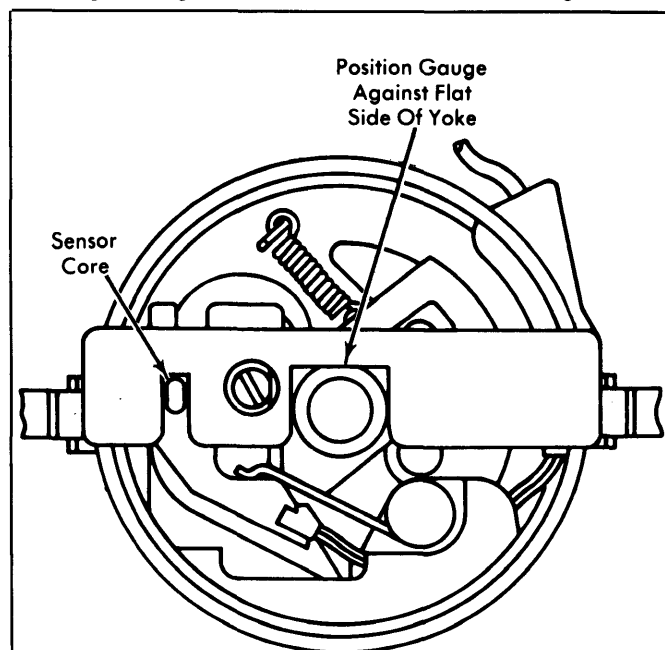

Fig. 2: Positioning Sensor Core
2) Tighten screw and recheck sensor position. When trigger wheel is installed, sensor core should be positioned in center of trigger wheel legs and legs should not touch sensor core. See Fig. 2.